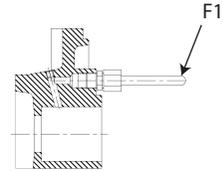

**Figure 5**
- Every pump is fitted with connections on the pump casing to drain the pump and the bearing bracket to evacuate the seal leakage from the stuffing box (**Figure 5,6**). If required the pump drain and seal leakage can be piped to a suitable reservoir. The pump draining piping must be fitted with an isolating valve and both must be suitable for the maximum operating pressure of the pump.